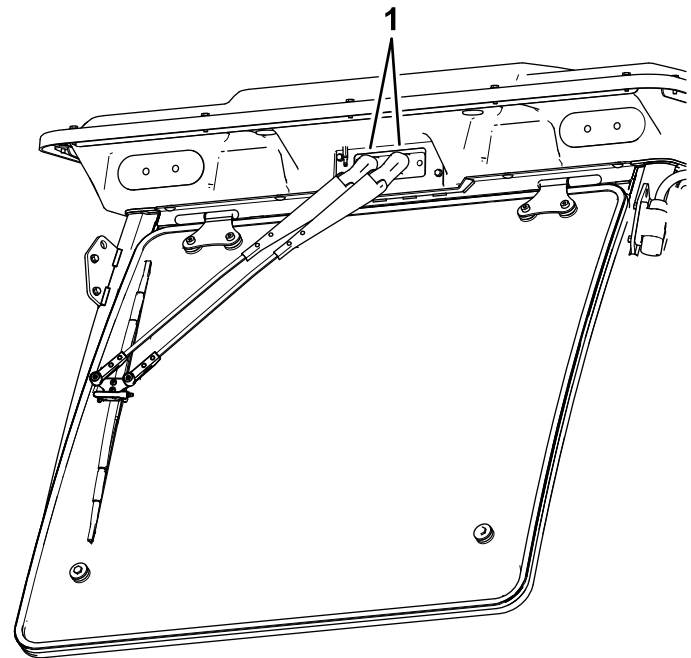

Figure 32
1. Open the caps at the top of the wiper arms (Figure 32).